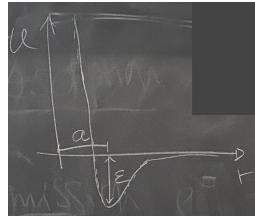

Figure 2.5: Potential well.
- In a typical attraction well, we have a most probable distance a , at which the energy depth is ε (see Figure 2.5).